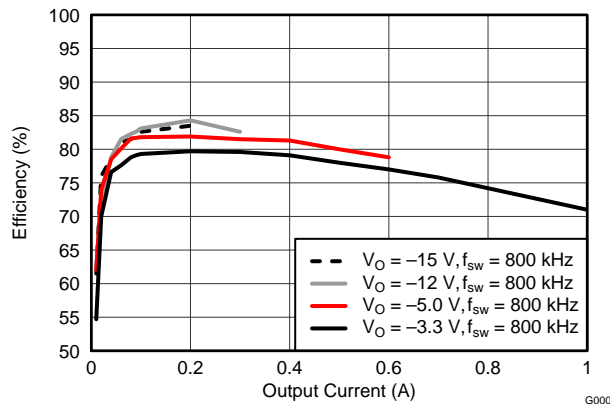
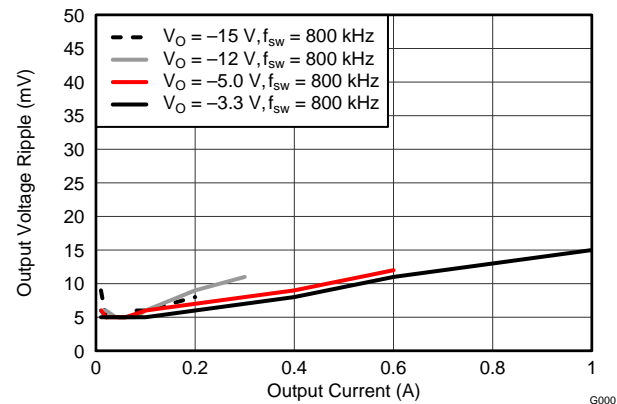
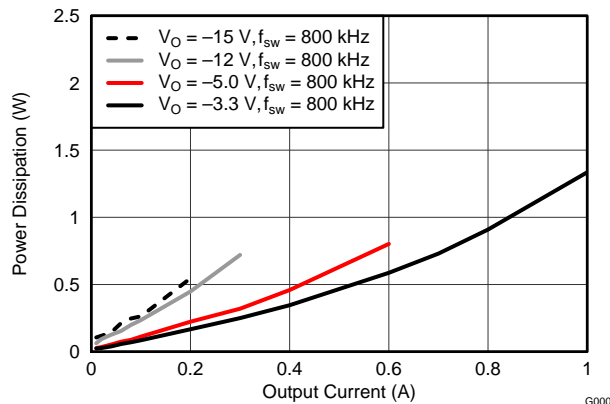

Figure 3. Efficiency vs. Output Current
Figure 4. Voltage Ripple vs. Output Current
Figure 5. Power Dissipation vs. Output Current
- (1) The electrical characteristic data has been developed from actual products tested at 25°C. This data is considered typical for the converter. Applies to Figure 3, Figure 4, and Figure 5.